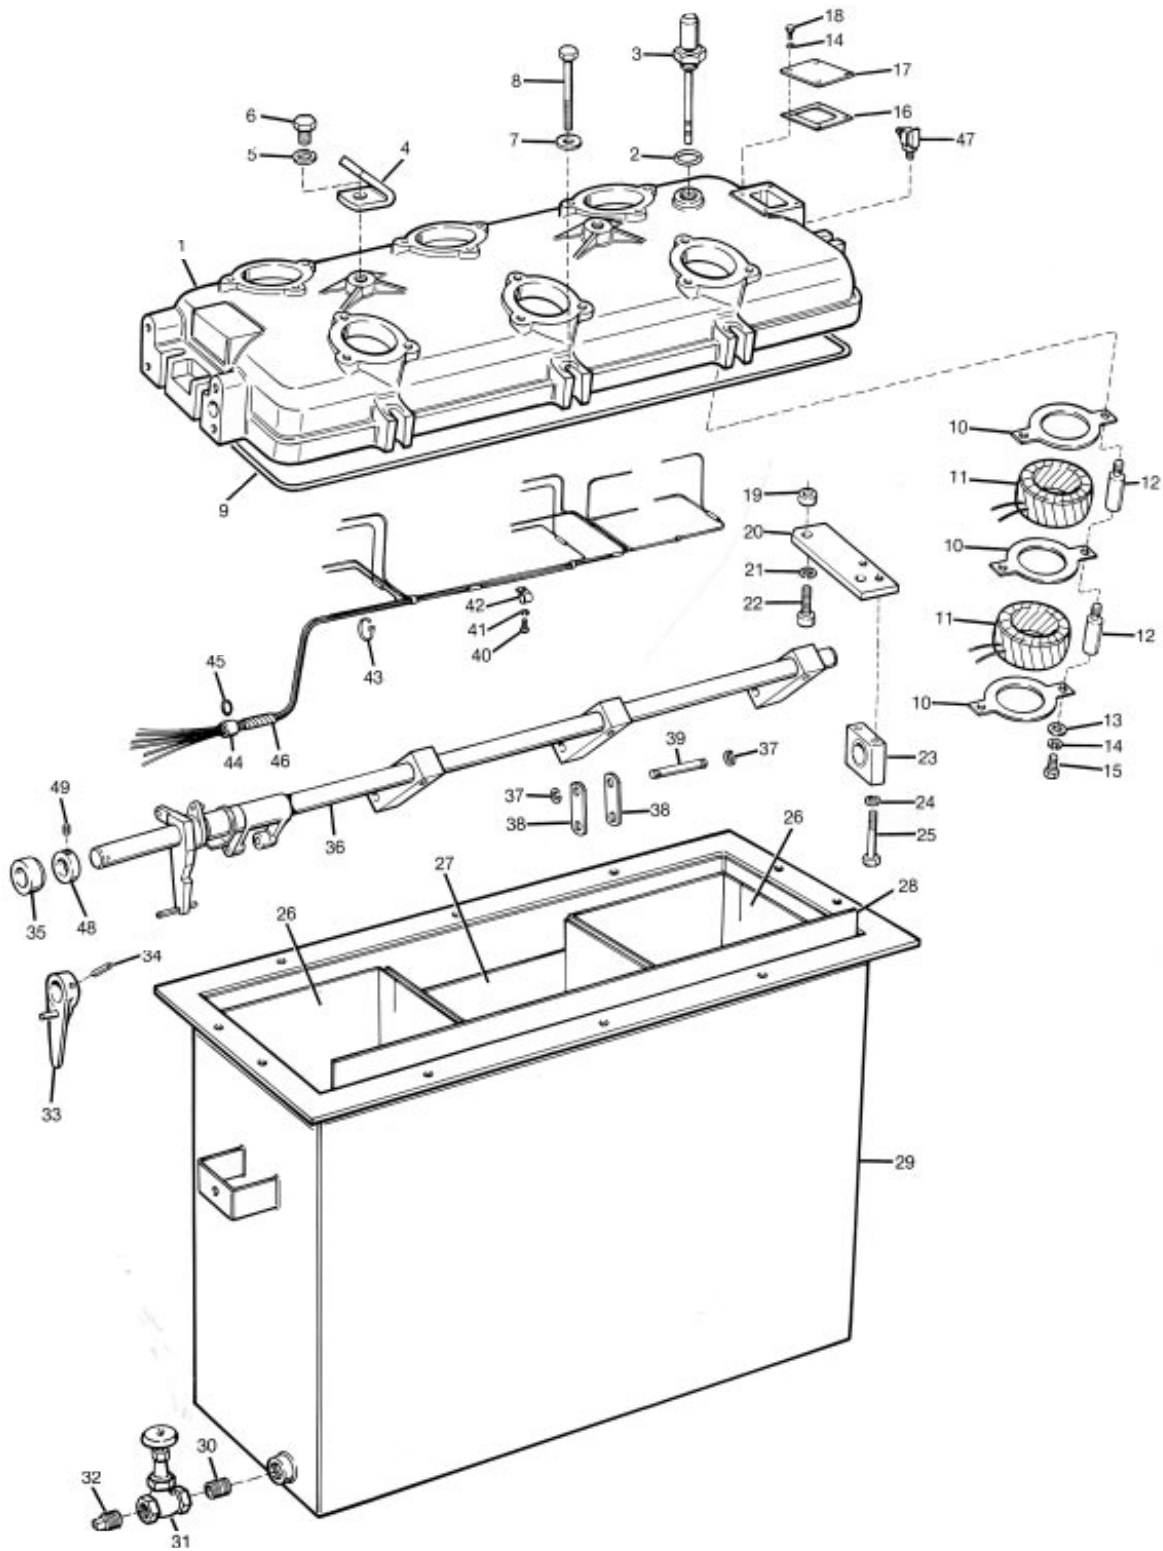

Figure 24.
**Head and Tank Assemblies (Figure 24)**